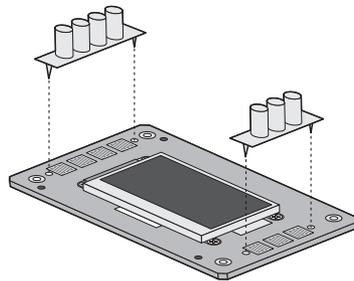

FIGURE 19: Removing/replacing the UIB buttons
6. **If you are removing the UIB to replace it with a new board, remove the UIB buttons from the old UIB (see Figure 19 on page 60).**